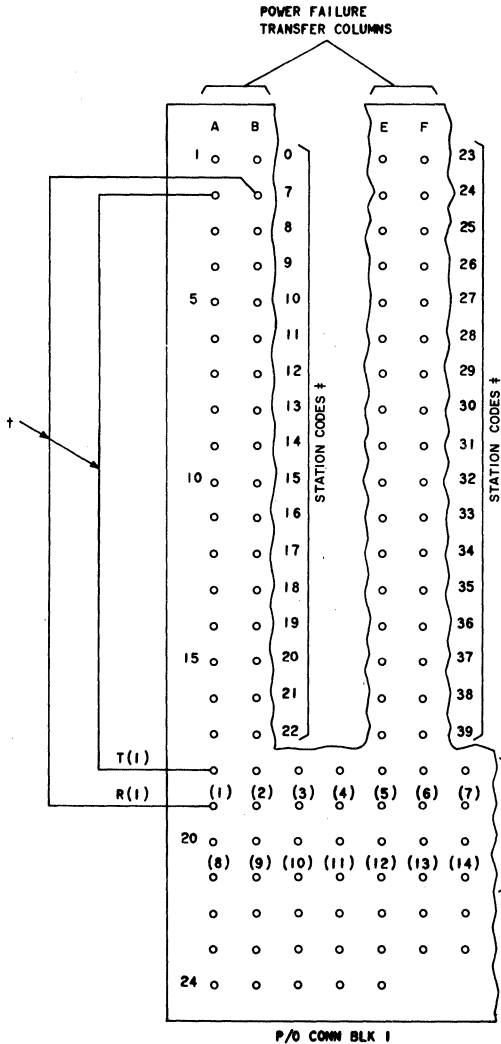

Fig. 34—Connections for Power Failure Ringing
**4.59** Where power failure ringing is provided, a power failure ringer (E1C) must be installed near the telephone sets designated to answer incoming calls in the event of a power failure. Connections (Fig. 34) may be made by one of the following methods:
**4.61** The tip and ring of each CO/PBX line is brought out on connecting block 1, rows 18 (tip) and 19 (ring) for lines 1 through 7 and rows 20 (tip) and 21 (ring) for lines 8 through 14 (Fig. 34). To connect a CO/PBX line to a selected station, run a strap from the CO/PBX line terminals (in rows 18 and 19 or 20 and 21) to the station terminals in columns A (tip) and B (ring) for station codes 0 and 7 through 22, or columns E (tip) and F (ring) for station codes 23 through 39. For example, Fig. 34 shows CO/PBX line 1 connected to station code 7. An E1C ringer must be installed near the station connected for power failure ringing. See Fig. 34 for connections.